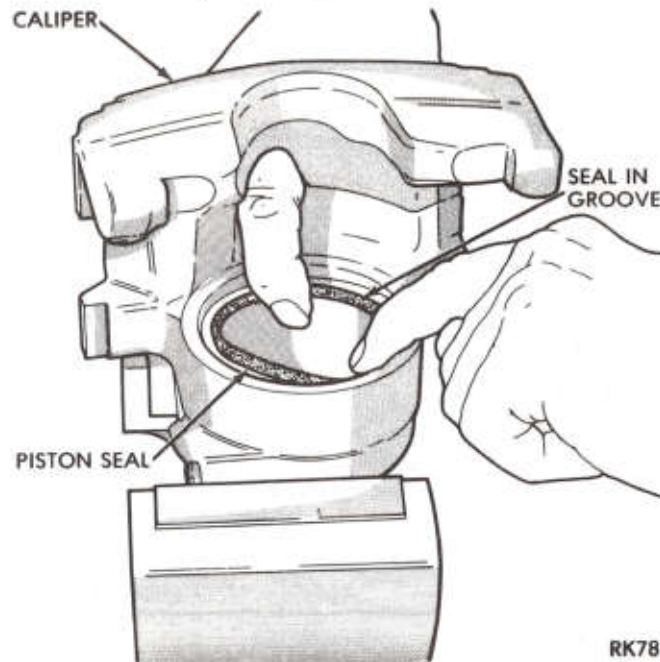

Fig. 14—Installing Piston Seal
- (2) Dip new piston seal in clean brake fluid and install in groove in bore. Seal should be positioned at one area in groove and gently worked around the groove, using fingers, until properly seated. Make sure that fingers are clean. **Never use an old piston seal. (Be sure seal is not twisted or rolled) (Fig. 14).**
- (3) Coat new piston boot with clean brake fluid leaving a generous amount inside of boot.
- (4) Position dust boot over piston.